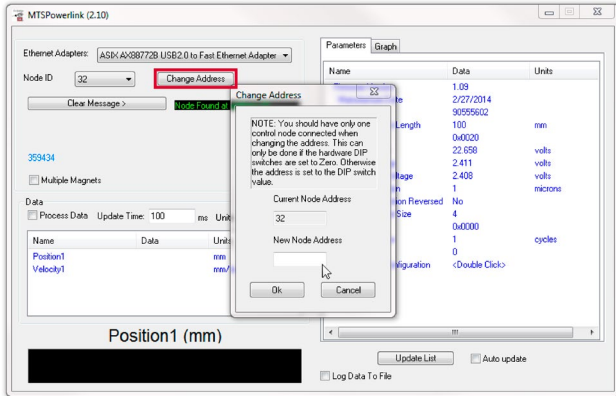

Fig. 54: Choose new node ID
- A window pops up. Fill in the new node address and click “Ok” (Fig. 54).